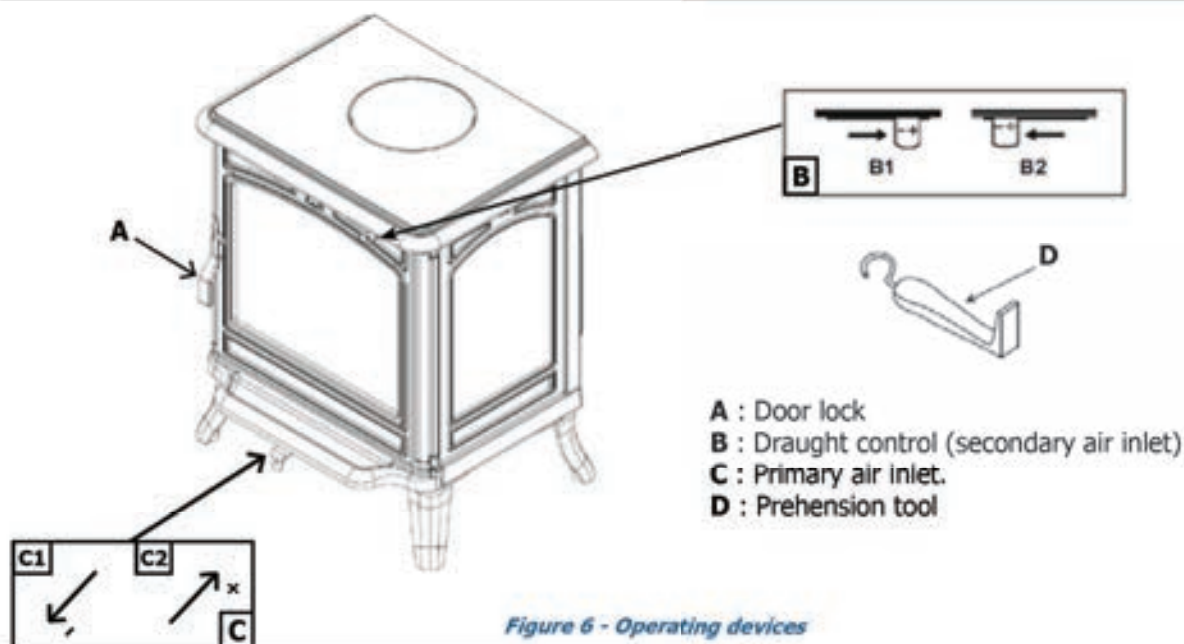

Figure 6 - Operating devices
**3.2. Instructions for use with wood***(Figure 6)***3.2.1. Lighting**
**3.3. Instructions for use with smokeless fuels****3.3.1. Lighting** *(Figure 6)*